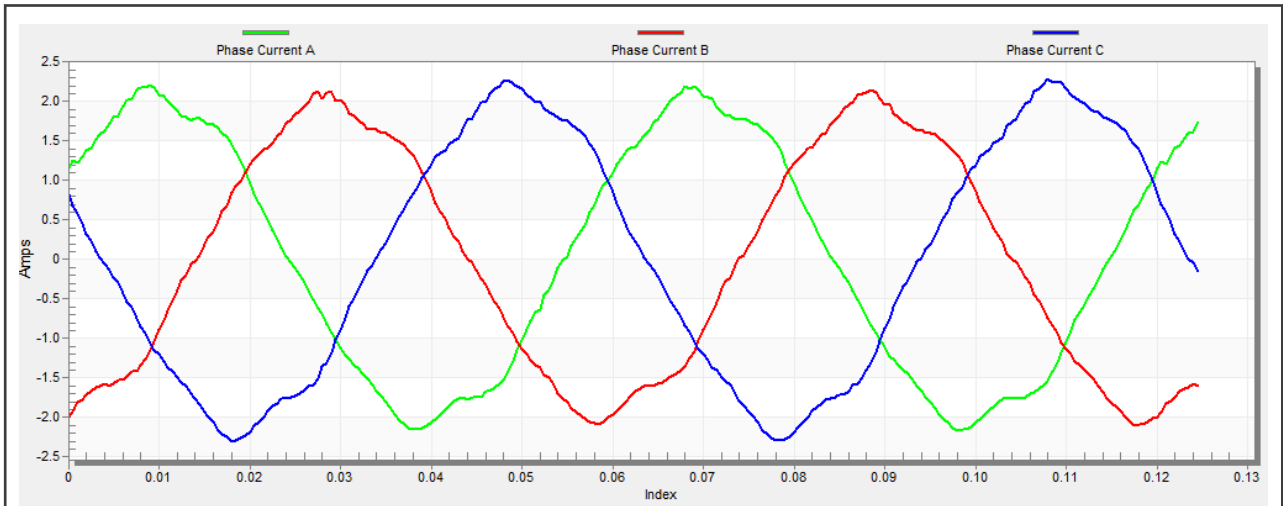

Figure 42. Phase currents
- The optimal ratio for the V/Hz profile can be found by changing the V/Hz factor directly or using the “UP/DOWN” buttons. The shape of the motor currents should be close to a sinusoidal shape (Figure 42).